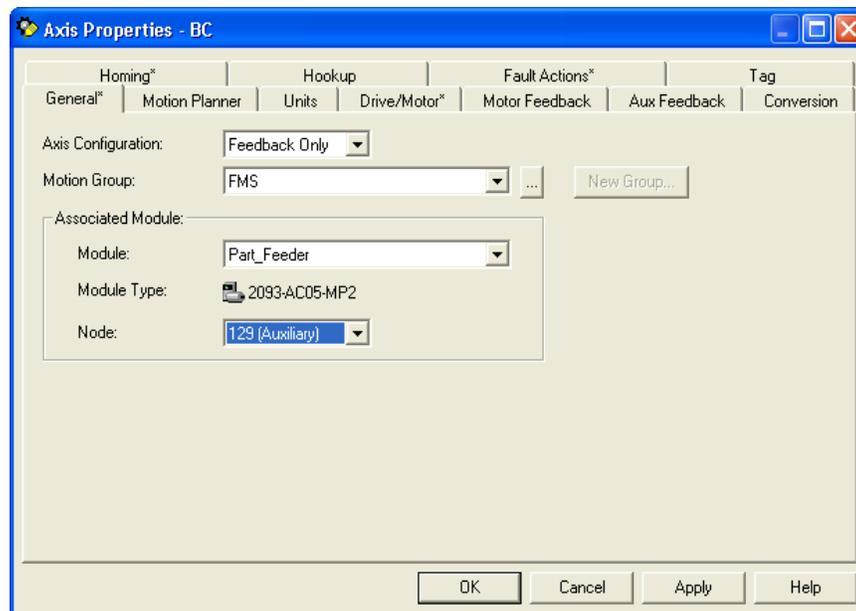
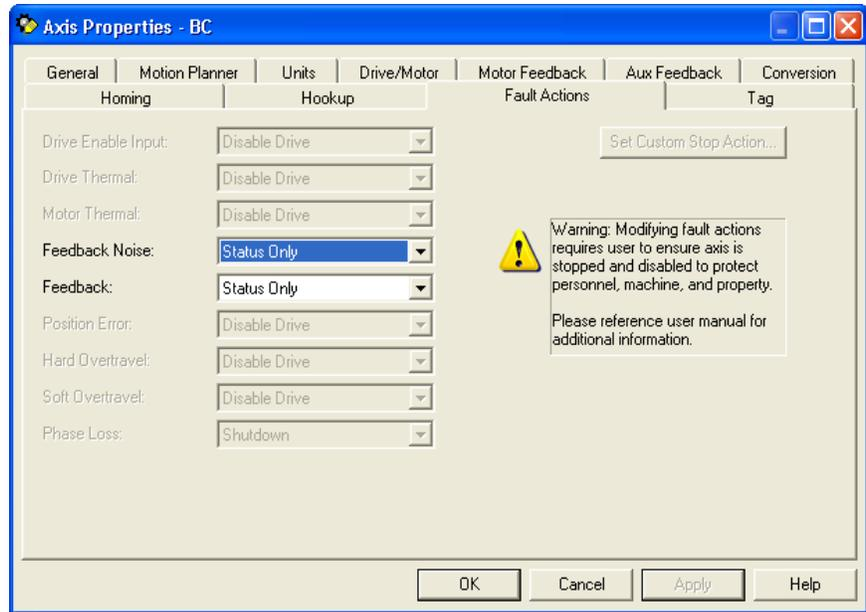

Figure 36. General (BC).
Figure 41. Fault Action (BC).
- Open the BC *Axis Properties*. Figure 36 to Figure 41 are the recommended settings for the different *Axis Properties* tabs. Enter all these settings and click *Apply*.